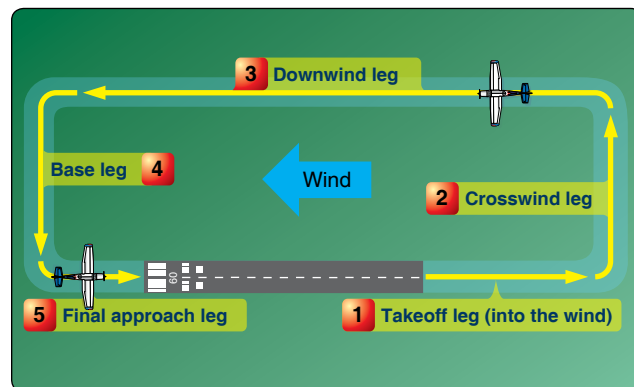

Figure 9-18. A standard fixed-wing traffic pattern consists of left turns, has five designated legs, and is flown at 1,000' AGL.
A normal airplane traffic pattern is rectangular, has five named legs, and a designated altitude, usually 1,000 feet AGL. While flying the traffic pattern, pilots should always keep in mind noise abatement rules and flying friendly to avoid dwellings and livestock. A pattern in which all turns are to the left is called a standard pattern. [Figure 9-18] The takeoff leg (item 1) normally consists of the aircraft's flightpath after takeoff. This leg is also called the departure leg. Turn to the crosswind leg (item 2) after passing the departure end of the runway when at a safe altitude. Fly the downwind leg (item 3) parallel to the runway at the designated traffic pattern altitude and distance from the runway. Begin the base leg (item 4) at a point selected according to other traffic and wind conditions. If the wind is very strong, begin the turn sooner than normal. If the wind is light, delay the turn to base. The final approach (item 5) is the path the aircraft flies immediately prior to touchdown.